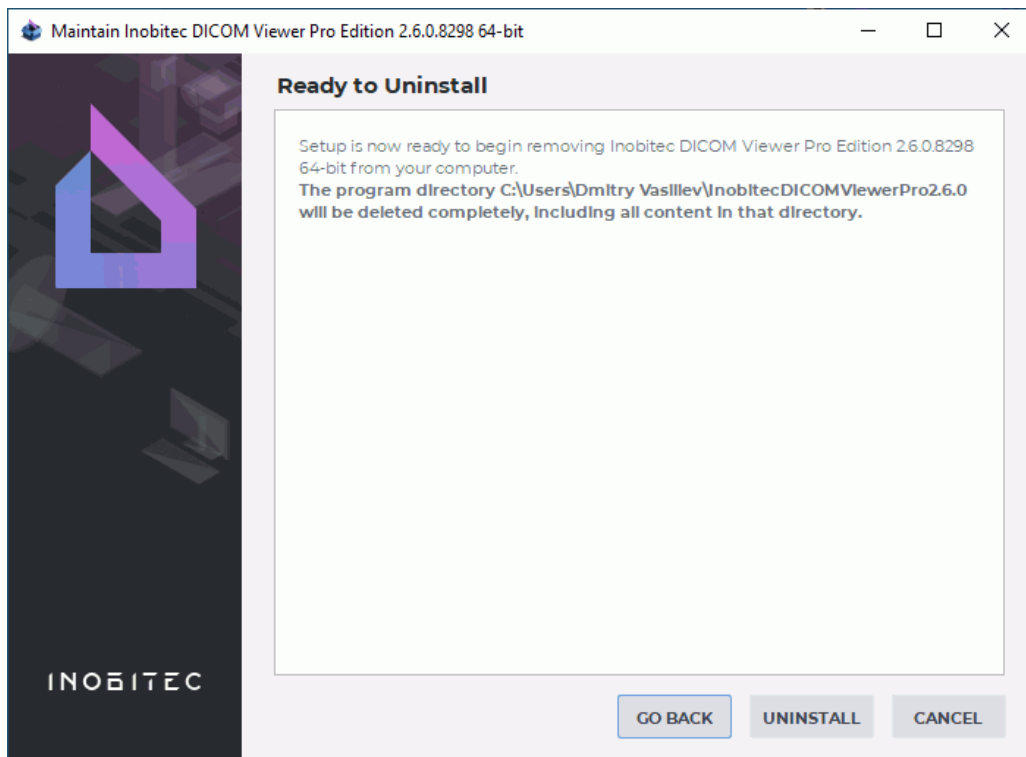

Figure 13: Confirm uninstallation
3. In the confirmation window click the **UNINSTALL** button (Fig. 13).